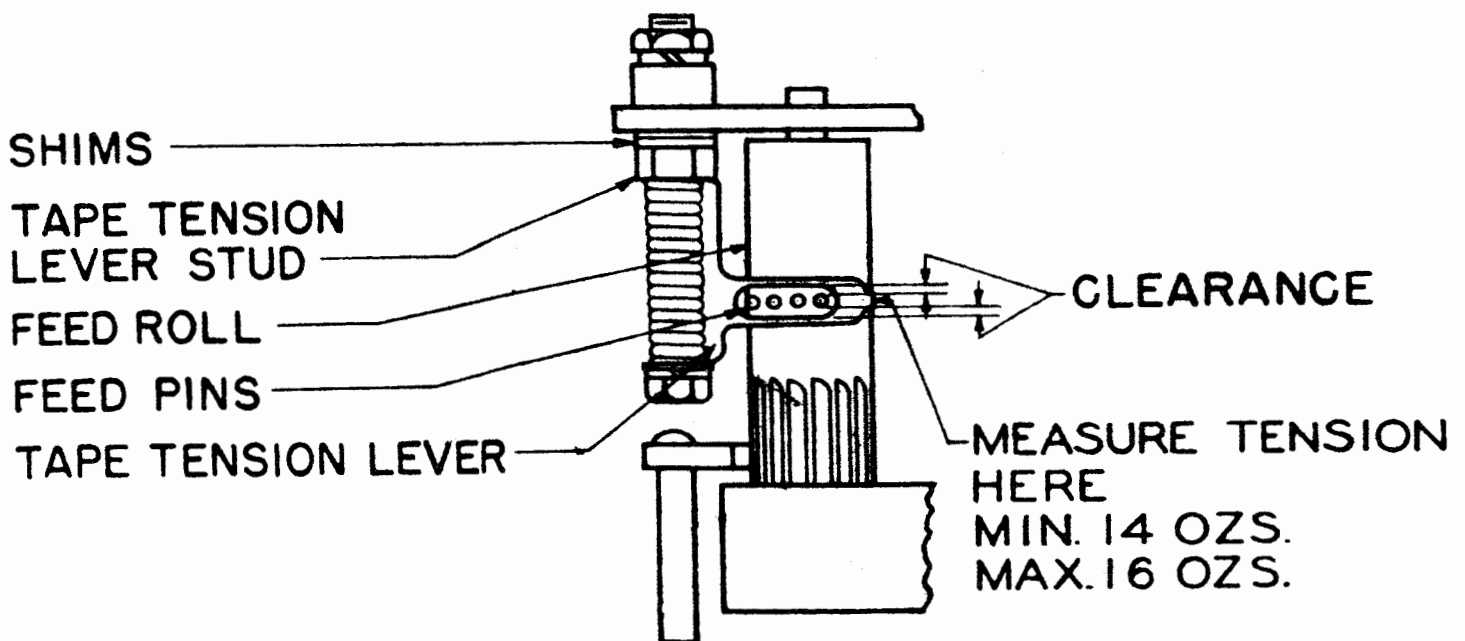

Figure 29
3.06 Tape-tension Lever should be centrally located with respect to the feed-roll pins. See Figure 29.
3.07 Tape-tension-lever Spring on units having TP110974 spring (15 turns) should have a tension of minimum 14 ounces, maximum 16 ounces measured at the end of the tape tension lever, pulling perpendicularly to a plane passing through center of tension lever stud and the end of the lever, as the lever starts to move from the feed roll. See Figure 29.